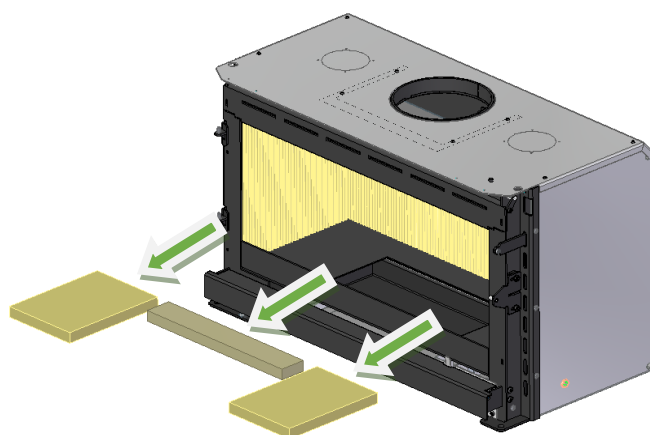

Figure 39 – Removing the vermiculite bottom
2. Remove the 3 pieces of vermiculite from the bottom by moving upwards and removing from the equipment, Figure 39.